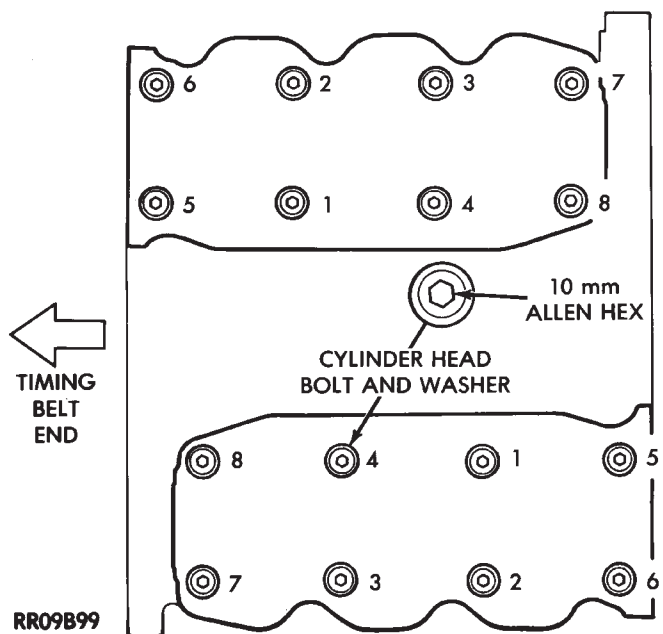

Fig. 16 Cylinder Head Bolt Tightening Sequence
- (1) Clean surfaces of head and block, install head gasket over locating dowels.
- (2) Install head on locating dowels.
- (3) Install 10mm Allen Hex head bolts with washers.
(4) Tighten bolts in the order shown in (Fig. 16). When tightening the cylinder head bolts, tighten gradually, working in two or three steps and finally tighten to specified torque of 108 N•m (80 ft. lbs.).